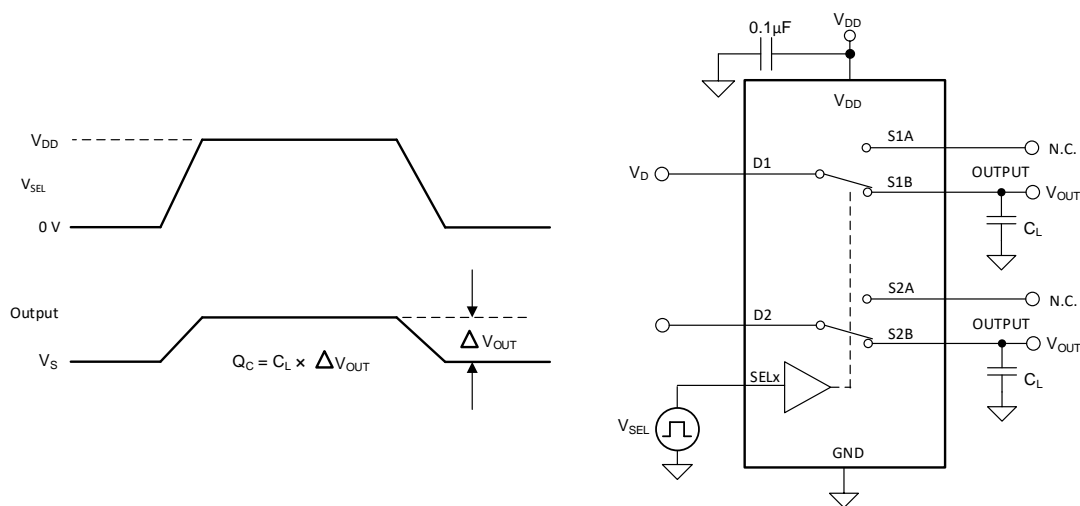

Figure 21. Charge-Injection Measurement Setup
The TMUX1136 has a transmission-gate topology. Any mismatch in capacitance between the NMOS and PMOS transistors results in a charge injected into the source or drain or source during the falling or rising edge of the gate signal. The amount of charge injected into the source or drain of the device is known as charge injection, and is denoted by the symbol Q_C . Figure 21 shows the setup used to measure charge injection from Drain (D) to Source (Sx).